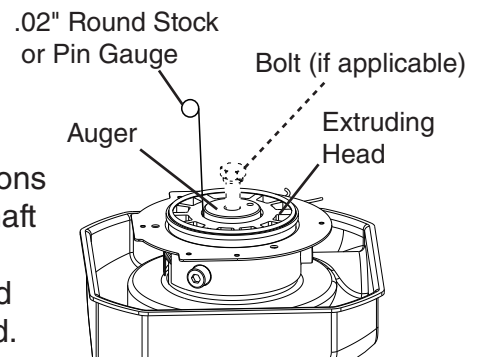

Fig. 9
- 5) Replace the bolt in the auger (if applicable). See Fig. 9. Move the auger towards you and then try to insert a .02" round stock or pin gauge in between the back side of the auger shaft and the bearing surface. Check several locations around the auger shaft. If the gauge goes between the shaft and the bearing at any point or if the bearing is scratched or cracked, both the top bearing in the extruding head and the lower bearing in the lower housing should be replaced. Instructions for removing the extruding head and lower housing are located later in this procedure.